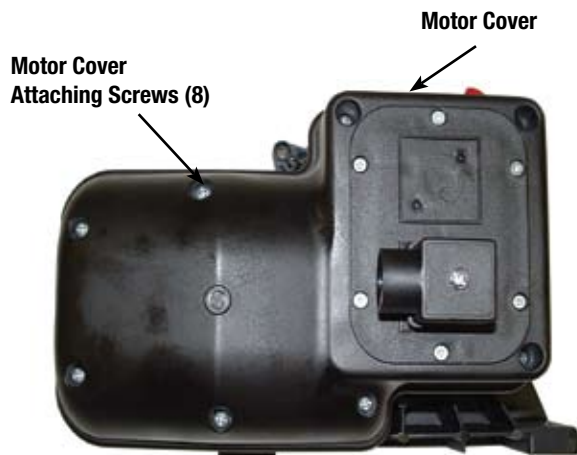

Figure 3-6
3.6 REPLACING DC GEARMOTOR (SEE FIG 3-6, 3-7, 3-8 & 3-9)